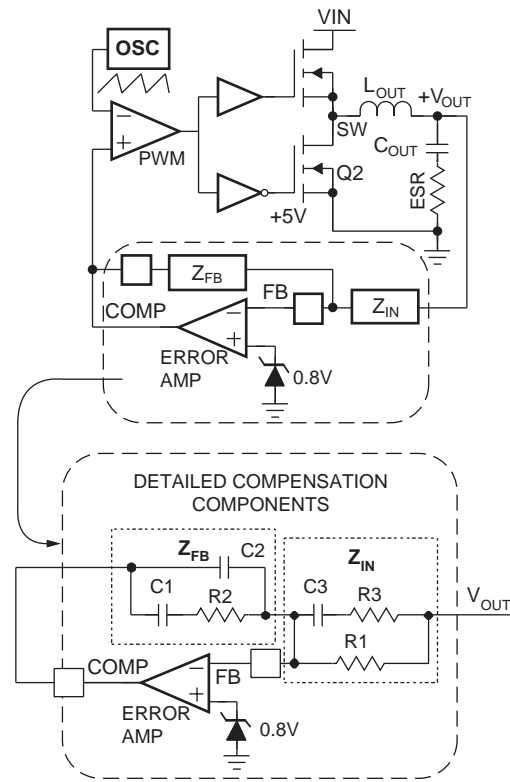

Figure 6. Voltage Mode Buck Converter Compensation Design
Figure 6 highlights the voltage-mode control loop for a synchronous-rectified buck converter. The output voltage (V_{OUT}) is regulated to the reference voltage level. The error amplifier (Error Amp) output ($V_{E/A}$) is compared with the oscillator (OSC) triangular wave to provide a pulse-width modulated (PWM) wave with an amplitude of V_{IN} at the SW node. The PWM wave is smoothed by the output LC filter (L_{OUT} and C_{OUT}).
- The compensation network consists of the error amplifier (internal to the FAN6520B) and the impedance networks Z_{IN} and Z_{FB} . The goal of the compensation network is to provide a closed loop transfer function with the highest 0dB crossing frequency (F_{0dB}) and adequate phase margin. Phase margin is the difference between the closed loop phase at F_{0dB} and 180 degrees. The equations below relate the compensation network's poles, zeros and gain to the components ($R1$, $R2$, $R3$, $C1$, $C2$, and $C3$) in Figure 6.